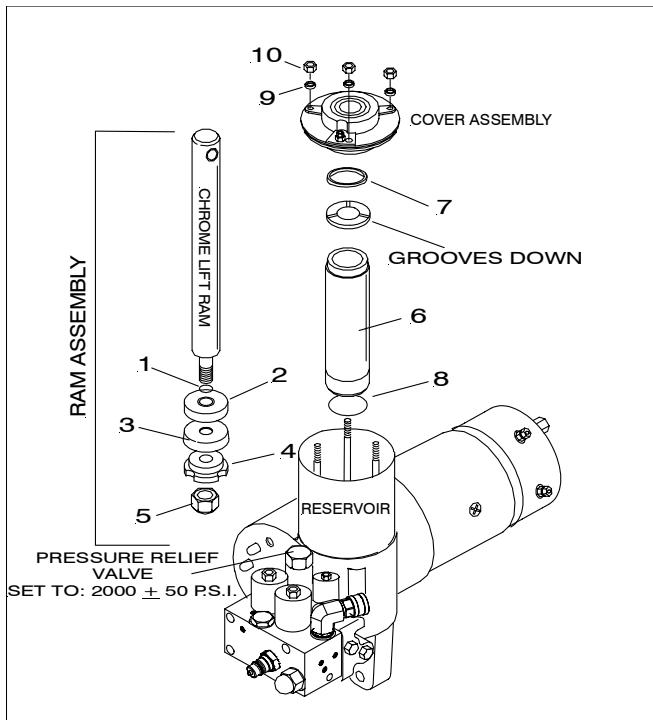

FIGURE 1
2. To disassemble Cover Assembly, remove the three Locknuts (10) and Nyltite Washers (9). See Figure 1.
3. Tap Cover Assembly up and off reservoir. If O-ring (7) came off with top cap discard it. This O-ring will not be reused.
4. Remove Lift Ram Assembly from Sump base. Remove O-ring (8) in bottom of Sump Casting. It will not be reused.
5. Remove chrome Ram Assembly from Lift Cylinder (6). Cylinder will not be reused.
6. To disassemble Lift Ram Assembly, remove nut (5), brass piston with packing cup, flatwasher and O-ring.
1. Assemble O-ring (1), Piston (2), Packing Cup (3), and Piston Follower (4) to Chrome Ram. Secure parts with nut (5). See Figure 1
2. Assemble Lift Ram Assembly into Lift Cylinder. Coat Piston Assembly with oil. Slide the Ram Assmby from the bottom up into cylinder (6).
3. Tap Ram Assembly up into Cylinder (6) making sure that no damage occurs to threads at the end of ram assembly or to bottom of cylinder (6) where O-ring (8) will sit.
4. Assemble washer with grooves facing downward onto chrome ram followed by O-ring (7).
5. Assemble O-ring (8) in bottom of sump casting. Set Lift Ram Assembly squarely into sump base.
7. Assemble Nyltite Washers (9) over studs bevel down.
8. Secure Cover Assembly with nuts (10). Torque nuts to 125 in.lbs.